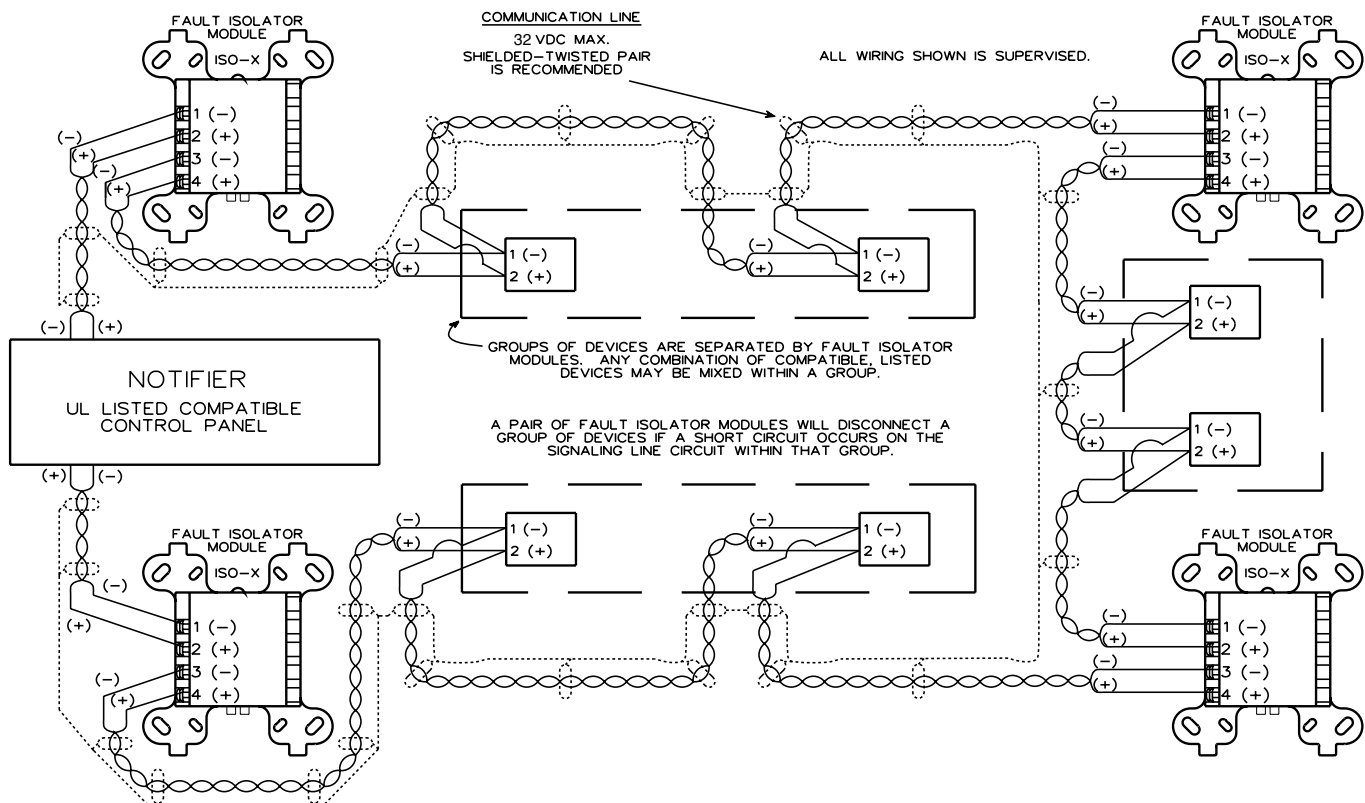

FIGURE 1. FAULT ISOLATOR MODULE WIRING
1. Install module wiring in accordance with the job drawings and the wiring diagrams in Figure 1.